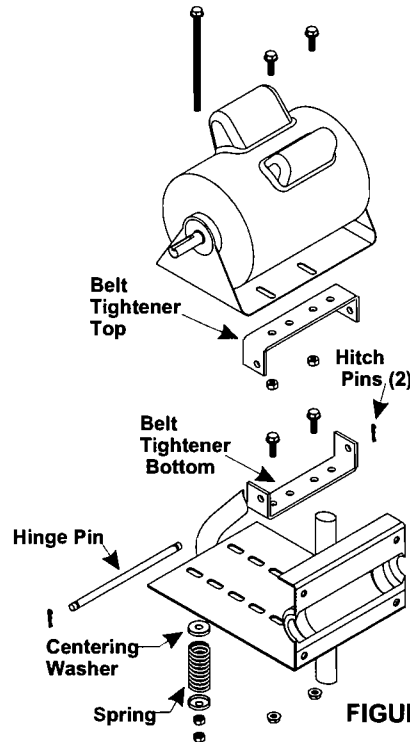

FIGURE 1
3. Attach the belt tightener top to the motor as shown in Figure 1 using the existing motor mounting bolts.
4. Attach the belt tightener bottom to the fan motor base. Mount as shown in Figure 1 using the existing motor mounting bolts.
5. Mount the motor to the fan by aligning the belt tightener hinge pin holes and inserting the hinge pin. Secure the hinge pin with two hitch pins as shown in Figure 1. Make sure to mount with the bottom bracket inside the top bracket.